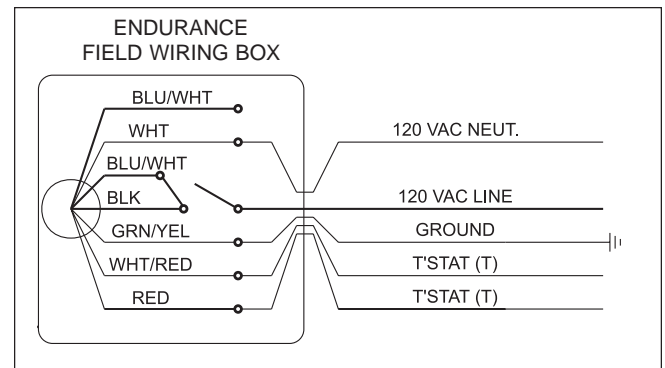

Figure 20. Single Zone With Room Thermostat (internal pump provides system flow).
1. Main power: Connect a fused 120 volt supply (15 amp) to the main power switch (see Figure 20) (hot leg is connected directly to switch). Neutral leg to white wire. Ground wire can be connected to the grounding screw in the box or on the switch.